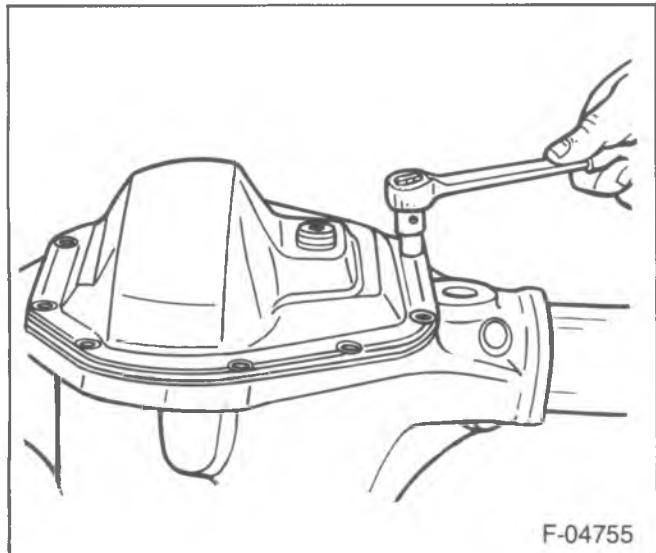

Figure 84—Removing the Axle Cover
- 1. The differential cover bolts (17) and the differential cover (14) (figure 84).
- 2. Axle shafts (38). Refer to the proper service manual.